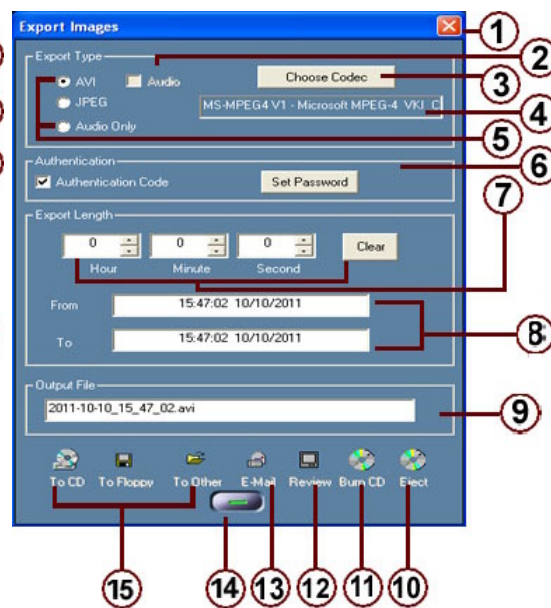

Figure 5-7
For HDER systems of version 5.0.0.25 or newer running on Windows XP or newer Windows OS, the Export Images window looks as shown in Figure 5-7.
2. Click Search button on the main window to go into Search mode (Figure 5-1 Search Screen) and click the Export Image button (Figure 5-1 (11))  to open the Export Images window (See Figure 5-7).
5. When all the exported files are burned, the disk will be ejected automatically if the "Eject when finished" is checked. Otherwise click on "Close" button to go back to the Export Images window and then click "Eject" button (Figure 5-7 (10)) to pop out the disk.